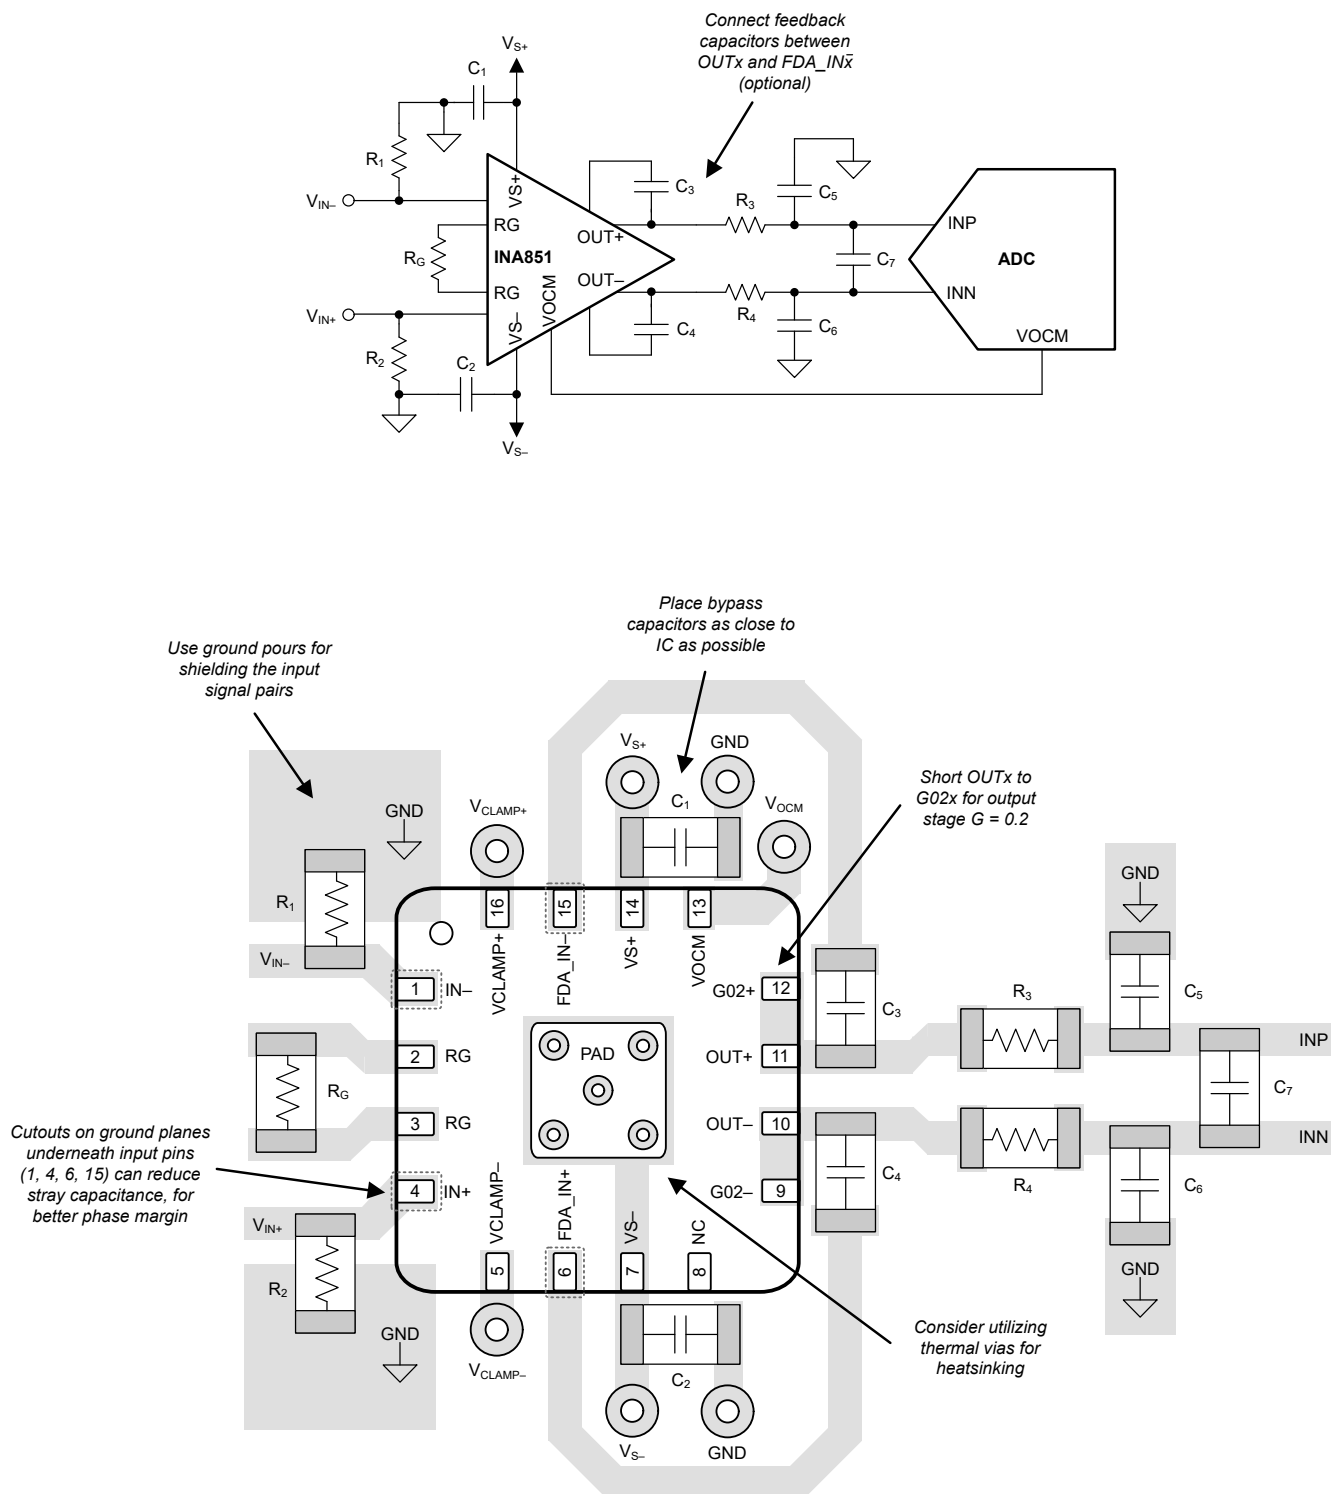

FIG 9-14. Example Schematic and Associated PCB Layout
- As shown in Figure 9-14, keep the external gain resistor close to the R_G pins to keep the loop inductance as low as possible and to avoid a potential parasitic coupling path. Even slight mismatch in parasitic capacitance at the gain setting pins can degrade CMRR over frequency. In applications that implement gain switching using switches or PhotoMOS® relays to change the value of R_G , select the component so that the switch capacitance is as small as possible, and most importantly, so that capacitance mismatch between the R_G pins is minimized.